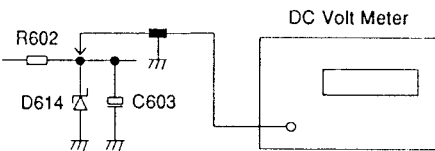

Fig. 2
3. Connect the equipment as shown in Fig. 2.